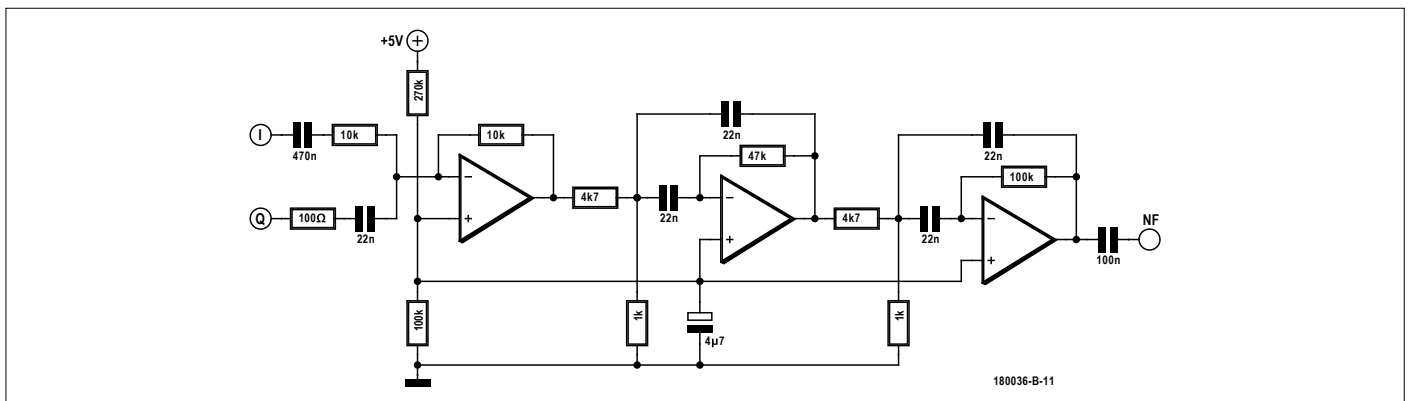

Figure 11. A bandpass filter with quadrature inputs.
For standalone operation of the receiver the signal processing software running on the PC must be replaced by a purely electronic solution. One approach is to use the bandpass filter with a centre frequency of 750 Hz shown in **Figure 11**. The circuit has separate in-phase (I) and quadrature (Q) inputs: first a relative phase shift of 90° at 750 Hz is applied to these signals, and then they are added together. The result is passed through a two-stage 750 Hz bandpass filter. The design uses type LM348 dual opamps.